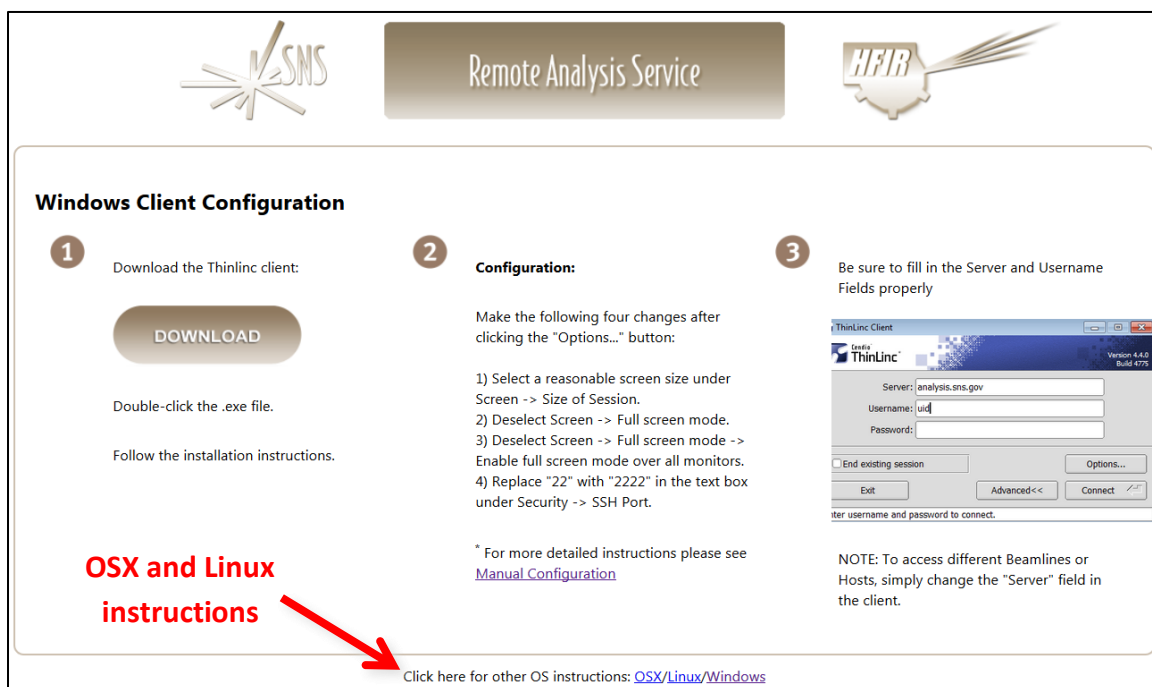

Figure 6. Thinlinc client installation instructions are available at <https://analysis.sns.gov/instructions/windows.html>.
- Alternatively, you can install the Thinlinc client on your machine. Click on the Thinlinc button and follow the steps to install and configure the client (Figure 6). Login credentials will be the same as XCAMS.